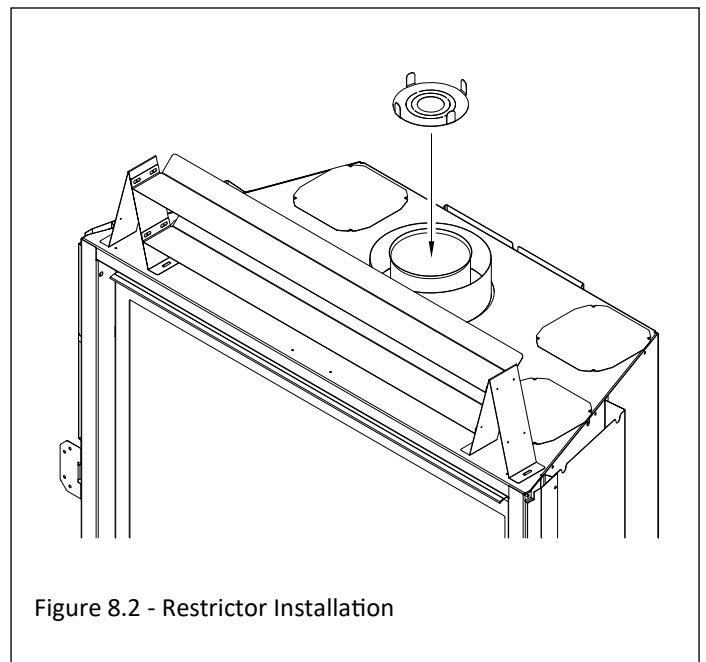

Figure 8.2 - Restrictor Installation
- The restrictor plate is shipped with all inner rings intact, and when installed, provides the most vent restriction. There are (2) inner rings that can be knocked out. As you knock out and remove an inner ring you have less vent restriction where removing both inner rings you will have the least amount of vent restriction.
- Follow FIGURE 8.2 for restrictor plate installation before attaching venting or through the baffle if venting is already attached. For vent restriction plate recommendations and adjustments, see section 12.2.3, Vent Restriction (after installation) on page 61.